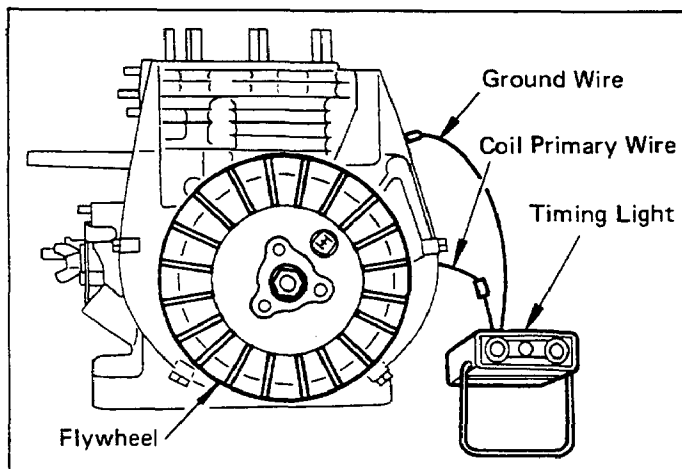

Fig. 7-3-1
With the Model EY14, EY18-3, EY25-2 and EY27-2 engines, the spark is timed to occur 23° before the piston reaches TDC on the compression stroke. This spark advance of 23° is controlled by the breaker point opening and this advance is obtained when the breaker point opening is adjusted according to the BREAKER POINT ADJUSTMENT to 0.35 mm (0.014 inch). However, the advance timing is more accurately adjusted through the following procedures, using a timing light as shown in Fig. 7-3-1.
- 3) Connect one of the timing light leads to the coil primary wire and ground the other lead to crankcase. (See Fig. 7-3-1)